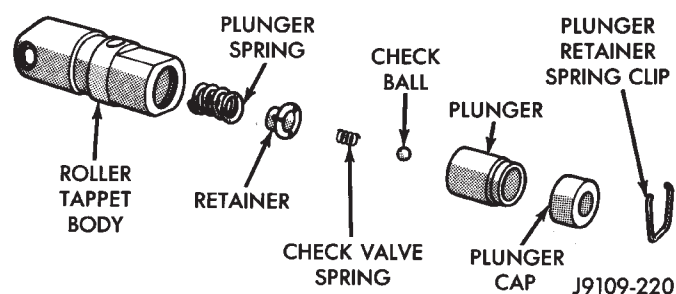

Fig. 56 Hydraulic Tappet Assembly
- (1) Pry out plunger retainer spring clip (Fig. 56).
- (2) Clean varnish deposits from inside of tappet body above plunger cap.
- (3) Invert tappet body and remove plunger cap, plunger, check valve, check valve spring, check valve retainer, and plunger spring (Fig. 56). Check valve could be flat or ball.
- (1) Clean all tappet parts in a solvent that will remove all varnish and carbon.
- (2) Replace tappets that are unfit for further service with new assemblies.
- (3) If plunger shows signs of scoring or wear, install a new tappet assembly. If valve is pitted, or valve seat on end of plunger is prevented from seating, install a new tappet assembly.
- (4) Assemble tappets (Fig. 56).